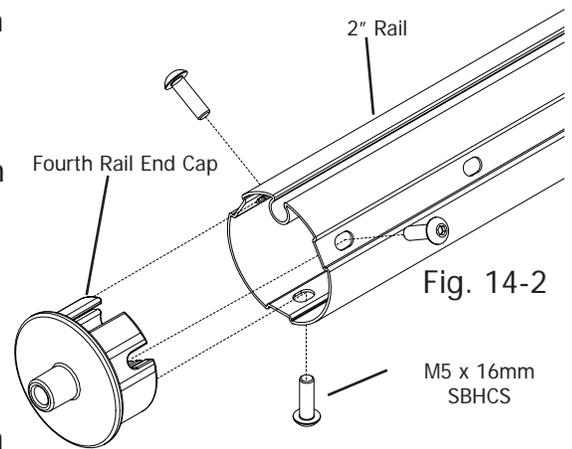

Fig. 14-2
⚙️ **14-3:** On one end of the remaining two (2) 2 inch rails, slide a fourth rail end cap inside the rail, as shown in Fig. 14-2. Attach the fourth rail end cap to the rail with three (3) M5 x 16mm SBHCS. Tighten the screws in a clockwise manner till they are completely tight.